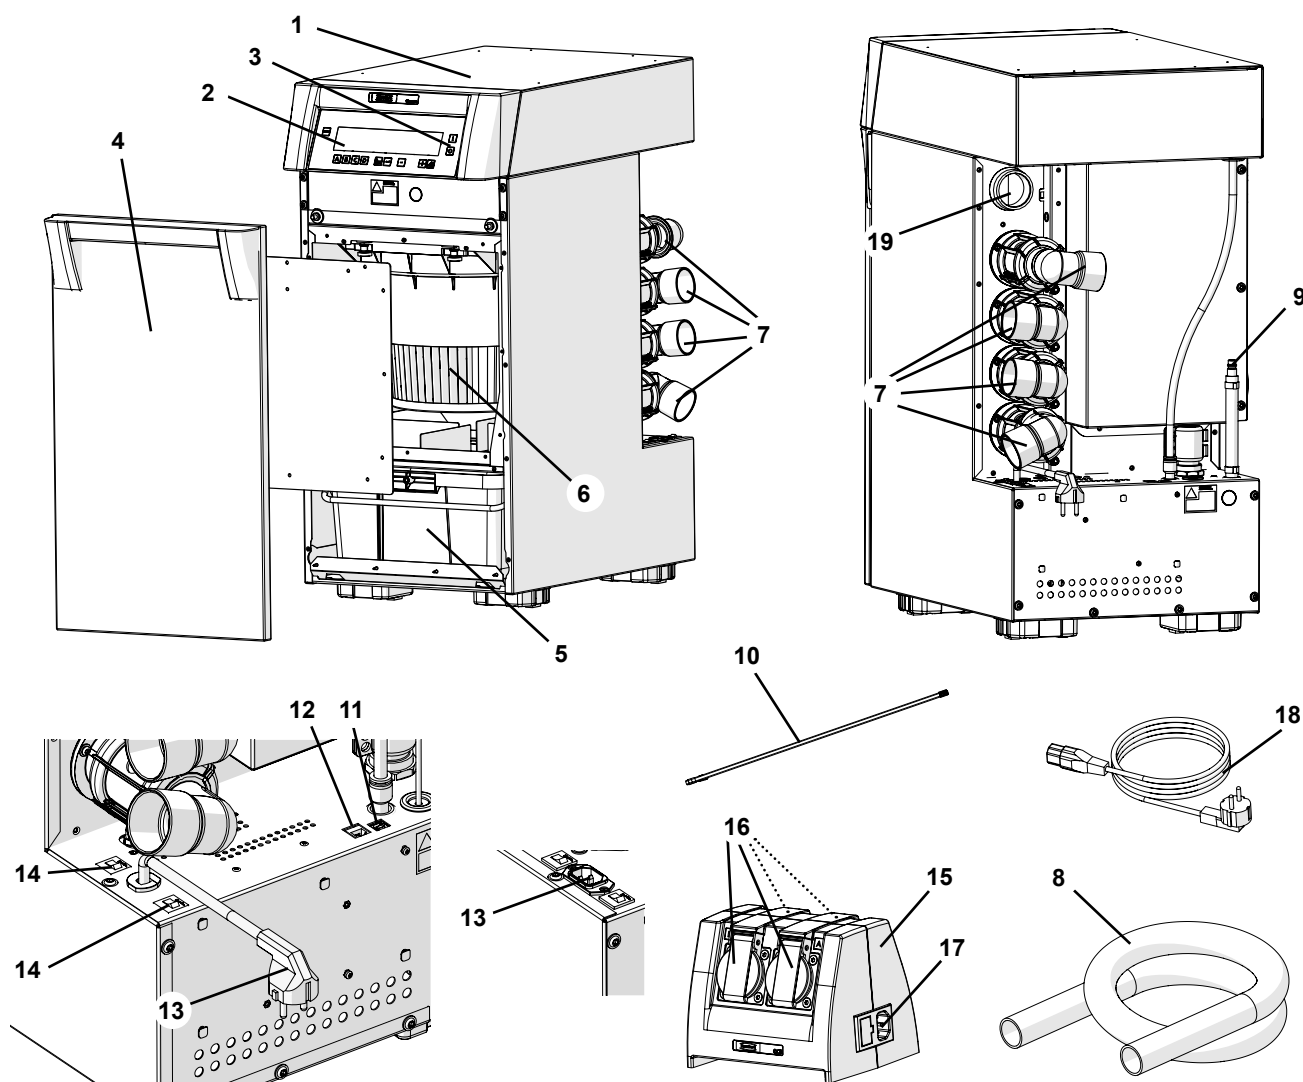

Fig. 1
- ▶ The appliance socket connections in the Quattro Control-Box (15, Fig. 1), are only for use as described in the Instructions for Use. If other electrical appliances are connected, this may cause damage.
⇒ Insert the cool air tube into the cool air connection (19, Fig.1).
⇒ Switch the device OFF at the On / Off switch (3, Fig.1).
On the device, the compressed air tube is sealed (9, Fig. 1).